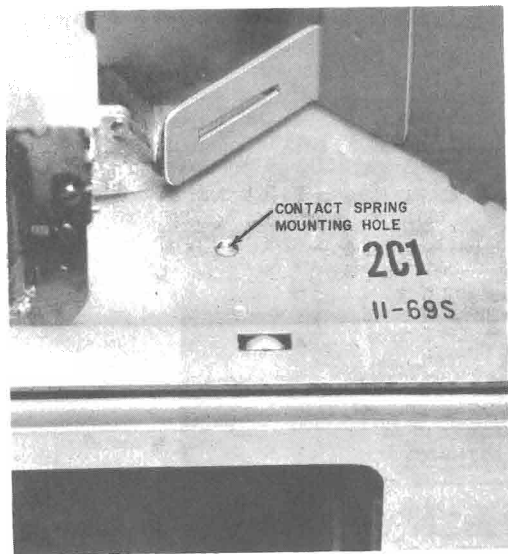

Fig. 9—Location of Contact Spring Mounting Hole in 2A/2C Telephone Sets
- (1) Remove totalizer assembly and coin chassis as follows:
- (b) Disconnect (BK) and (Y) leads from coin relay and carefully pull leads through guide hole in hopper.
- (2) Using the contact spring mounting hole as a guide (Fig. 9) drill through coin rail with 1/4-inch drill.
- (3) Remove the RH screw which secures the right front of the 1B rail to the housing assembly.
- (4) Using the 1/4-inch drill, enlarge the hole where the screw was removed.
- (5) Using a suitable file, remove all burrs from the 1B rail.
- (6) Remove all drill chips from the telephone set.
- (7) Install totalizer assembly and coin chassis as follows:
- (a) Install coin chassis using reverse of procedure (1).